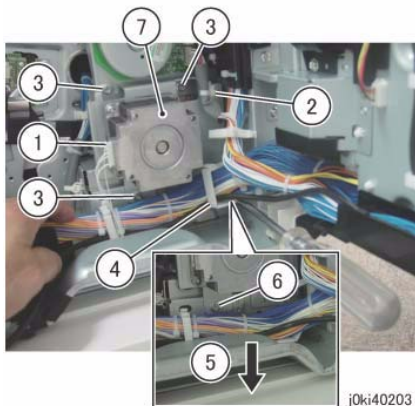

Figure 3 Remove the Takeaway Motor
9. Remove the Takeaway Motor. (Figure 3)